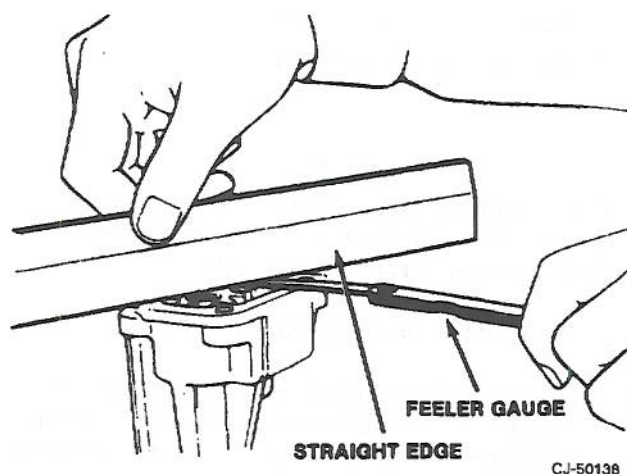

Figure 5-55. Oil Pump Cover-to-Gear Measurement
- (1) Remove screws and washers (5) and cover (4).
- (2) Remove strainer assembly (2) from cover (4).
- (3) Using a straight edge and feeler gauge, measure clearance between ends of gears (6) and (7) and cover (4) as shown in figure 5-55. Record measurements for future reference.
- (4) Measure clearance between tips of gear teeth and gear case at several points around drive gear (7) and driven gear (6). Record for future reference.